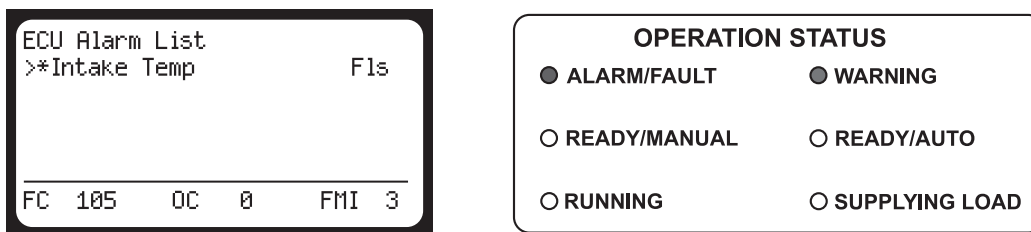

Figure 1
Press the "▲" Scroll-Up button (on the diagnostic keypad) to view the "ECU Alarm List." This will allow the operator to view a description of the fault, along with the diagnostic trouble codes located at the bottom of the display. Refer to Figure 1. To further identify a fault by using these codes, refer to the John Deere Operator's Manual supplied with the unit. To resume operation, the fault condition must be resolved and the code cleared from the display.
***Note:** The Suspect Parameter Number (SPN) is displayed as "FC" on the bottom left of the LCD window. Refer to Figure 1.